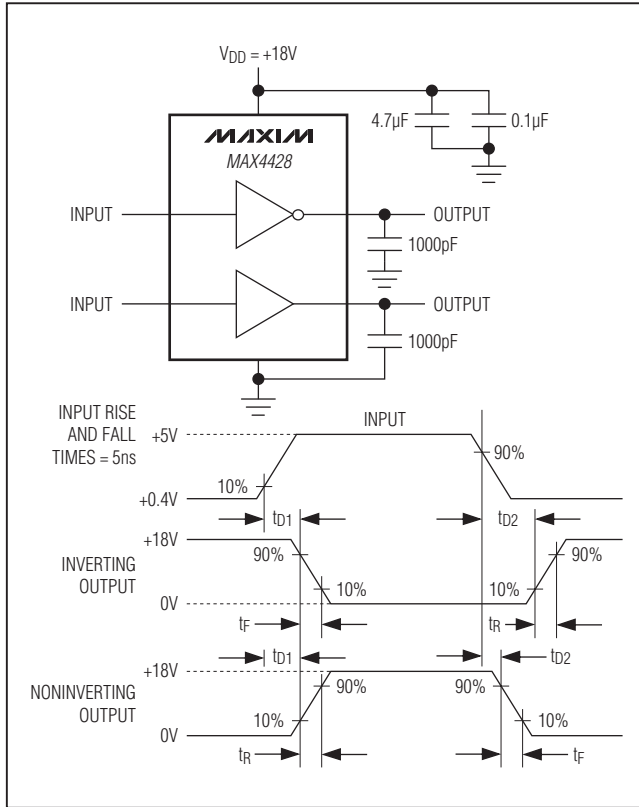

Figure 1. Inverting and Noninverting Test Circuit
**Note 1:** Switching times guaranteed by design, not tested. See Figure 1 for timing measurement circuit.